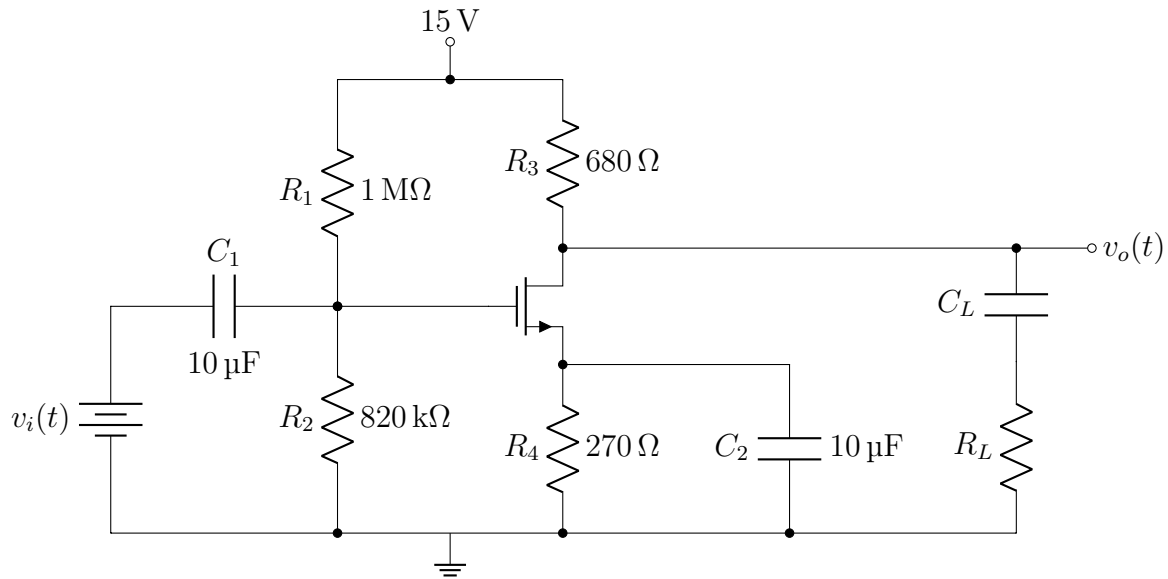

Figure 4: Circuit Used to Characterize MOSFET Amplifier Gain and Load Limits
5. Now attach a load as shown in Fig. 4 to the amplifier output. C_L should be 1 μF and R_L should be 100 Ω. Carefully measure and record the total output voltage $v_o(t)$. Carefully measure and record the total output voltage $v_o(t)$.